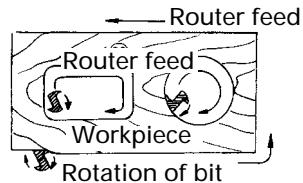

Fig. 20
- (2) The bit rotates clockwise (arrow direction indicated on the base). To obtain maximum cutting effectiveness, feed the router in conformance with the feed directions shown in Fig. 20.